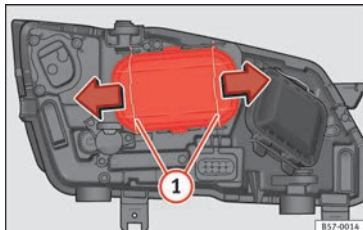

Fig. 104 In the engine compartment: remove the lid.
2. Move the loops » **Fig. 104** ① in the direction of the arrow and remove the cover.